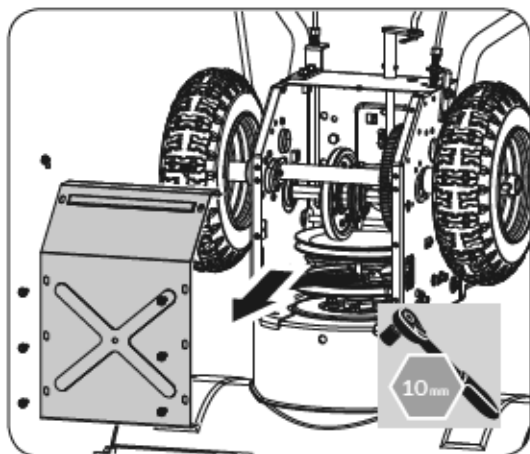

Figure 16c
5. Remove the frame cover from the underside of the snow blower by removing the screws which secure the cover. (See **Figure 16c**)
4. Remove bottom cover to avoid bending it when tipping unit apart. (See Figure 16c)
3. Remove the frame cover(s) from the underside of the snow blower by removing the screws which secure the cover(s). (See Figure 16c)